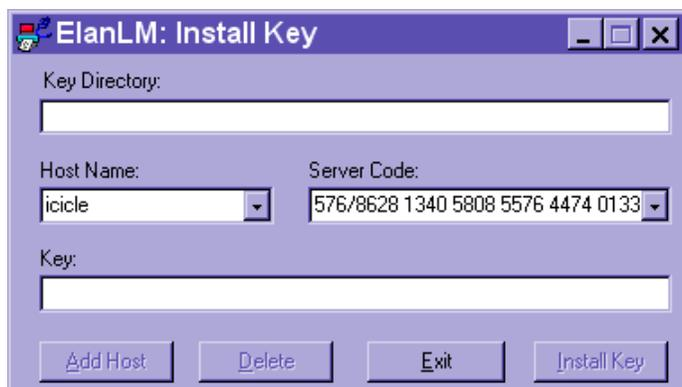

Figure 2-8. ElanLM: Install Key window
- [] 3. The ElanLM: Install Key window appears (Figure 2-8). You will need a conveniently accessible copy of your system's **Server Code** to provide to Chyron Customer Service, via fax (see step 5 below). It is recommended that you click **ONCE** on the numerical sequence in the **Server Code** window; the window will be highlighted.